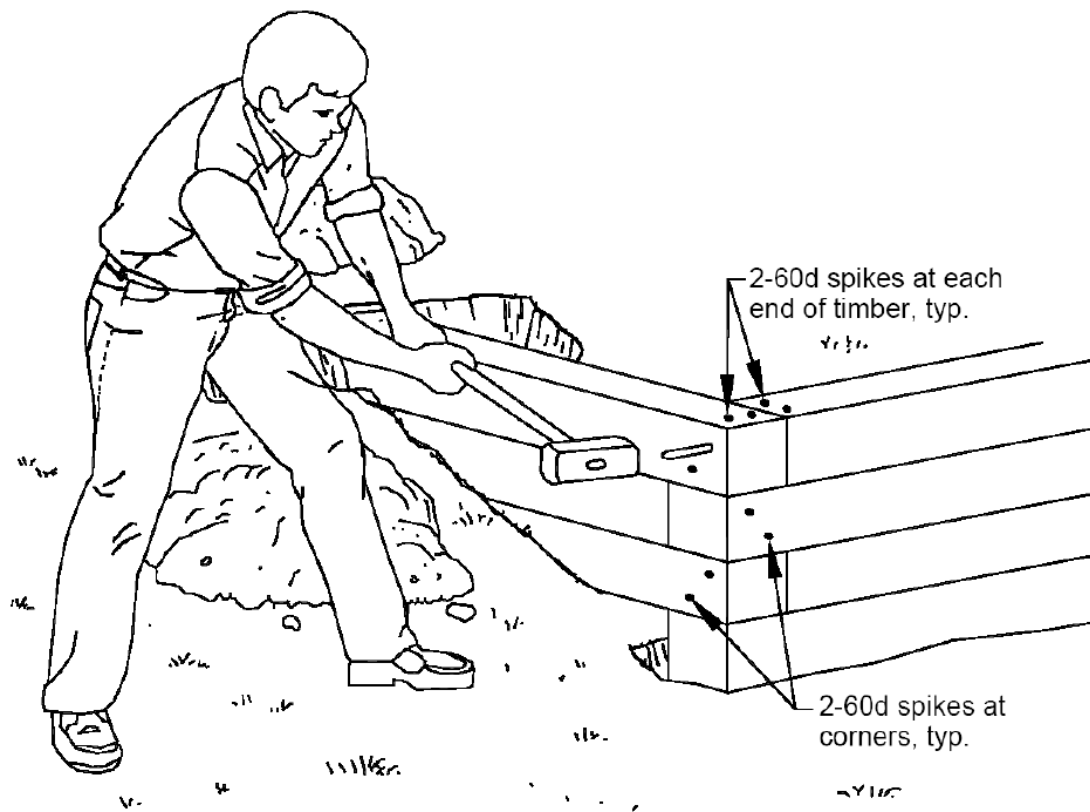

FIGURE 4: TYPICAL CORNER DETAIL
4. Each 6x6 member shall be secured at each end with 2-60d spikes driven vertically into the member below. Corners shall be secured with 2-60d spikes, driven horizontally as shown in Figure 4.